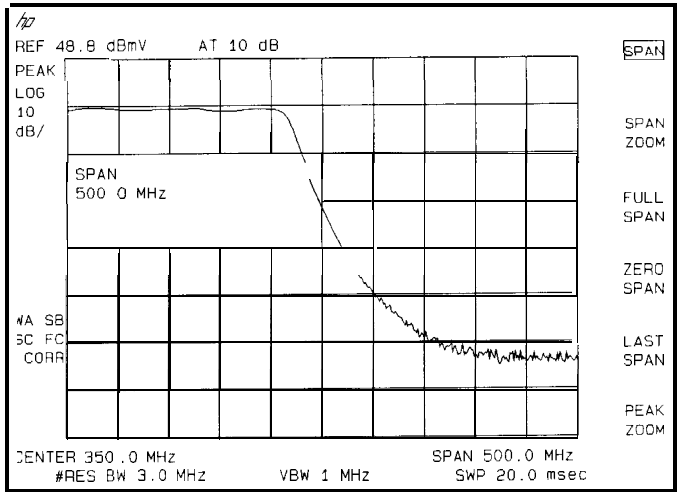

Figure 5-6. Spectrum Analyzer Settings According to the Measurement Requirement
5. Since we are only interested in the rejection of the low-pass filter, tune the spectrum analyzer's center frequency so that the roll-off of the filter comprises the majority of the trace on the display (see Figure 5-6).